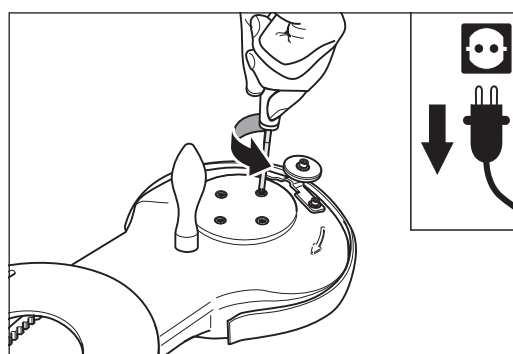
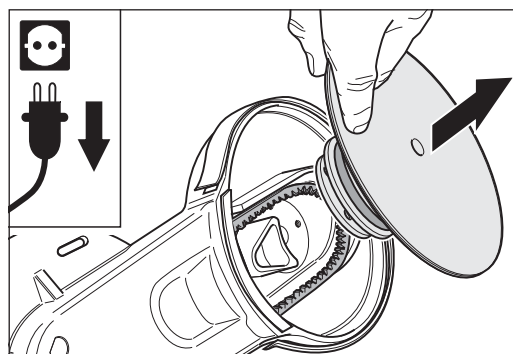

Fig. 68 Unscrewing the screws.
Fig. 69 Removing the complete sanding bearing unit.
- 8 Unscrew the screws all the way out (fig. 68) and remove the complete bearing unit of the sanding disc wheel (fig. 69). The sanding disc can remain on the sanding disc wheel.